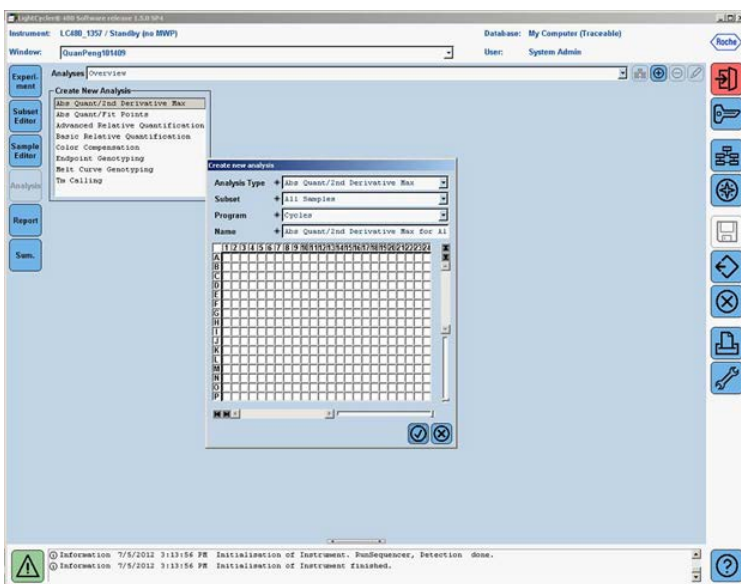

Figure 8. Setting up analysis for the second derivative maximum.
- Obtaining the Crossing Point (Cp) Cycle values: Once the selected run file is open, click the Analysis button on the left-hand side of the window. In the Create new analysis list double click to select "Abs Quant/2nd Derivative Max". In the "Create new analysis" window that opens, make sure the Analysis Type is "Abs Quant/2nd Derivative Max" (Figure 8). Click to confirm the selection.